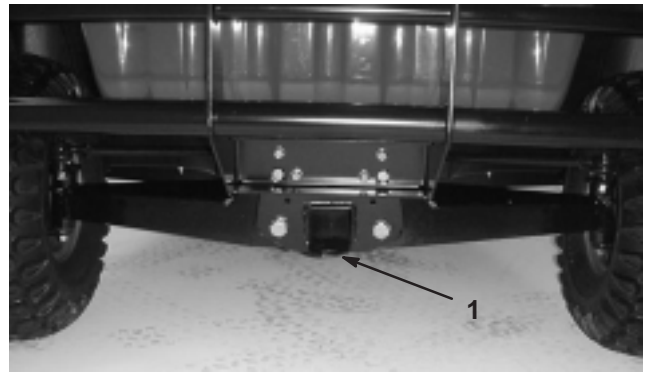

Figure 13
2. Affix a tow line to the tongue on the front of the frame (Fig. 13).